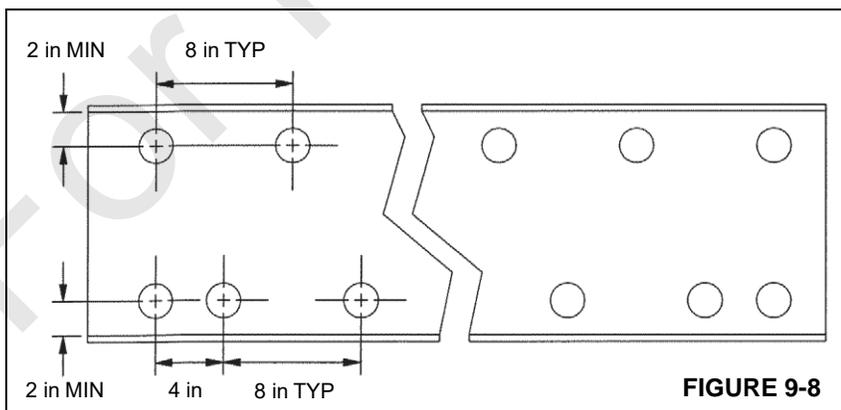

FIGURE 9-8
See Figure 9-8 for recommended drilling and bolting procedure. Use 5/8, Grade 8 bolts, drill holes to 39/64 diameter, drive fit bolts and properly tighten accordingly. See "Fasteners and Torque Values" on page 1-7.
8. If reinforcing angle is to be bolted on, drill hole pattern and install bolts according to Figure 9-8. Reinforce spring hanger cut outs and the weld area, suspension